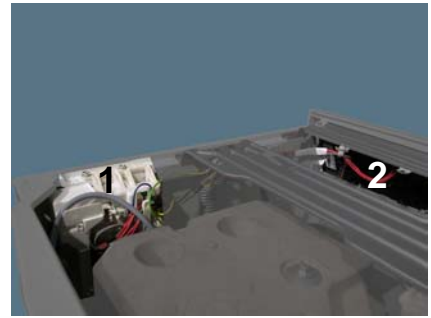

Fig. 4
- arrange the closing lever as shown in fig. 4.